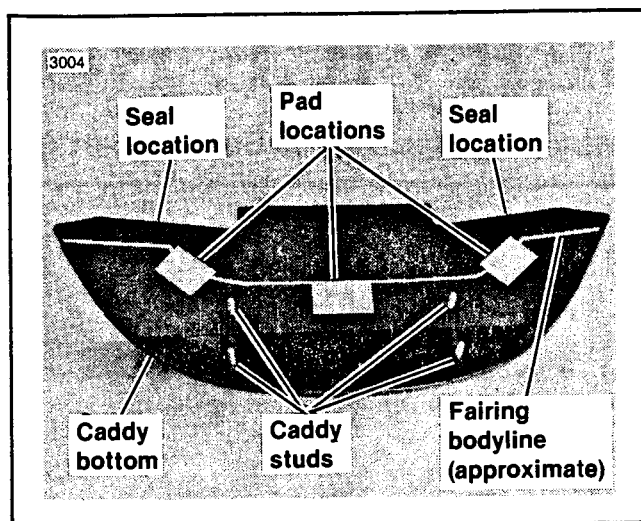

Figure 2. Radio Caddy Mounting
3. See Figure 2. Remove the nuts from the radio caddy studs through the headlamp opening.
*Before removing the radio caddy reach under the caddy and scribe the outline of the fairing on the caddy bottom plate. See Figure 2. The fairing bodyline that you trace will assure proper placement of the pads.*
6. See Figure 2. Place three radio caddy pads, Harley-Davidson part number 66104-84, on the bottom plate of the caddy. Place the U-shaped seal strips, Harley-Davidson part number 77060-86, directly under the speakers, on the caddy edge.